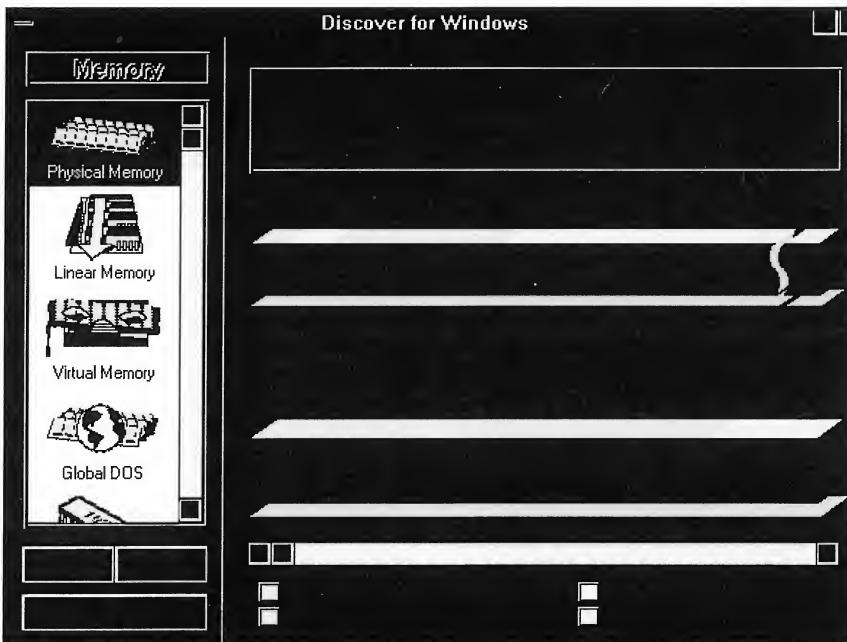

Fig. 3. Discover for Windows information about system memory use.
Should you need or want to find out in detail what's going on inside your system, the system-analysis tools of Discover for *Windows* provide detailed information about software, memory, system components, disk drives and I/O devices, as well as a series of benchmarks. Figure 3 shows a typical screen for information about system-memory use.
**A.** *WinTune* (Fig. 3) is quite correct in its interpretation of the problem. Windows uses fixed 64K blocks of memory below 1M to track Windows' resources. If even one of these blocks runs out of memory, though, you'll get this type of behavior. It's important to understand that, no matter how much RAM you add to your computer, these system-resource blocks don't grow in size. There are a couple things you can do to optimize your memory blocks.
**Fig. 3.** Windows' WinTune diagnostic program can ferret out hard-to-find memory problems, as well as rate performance of your system and its parts. You can download it from: <http://techweb.cmp.com/win/software/wt20.zip>.